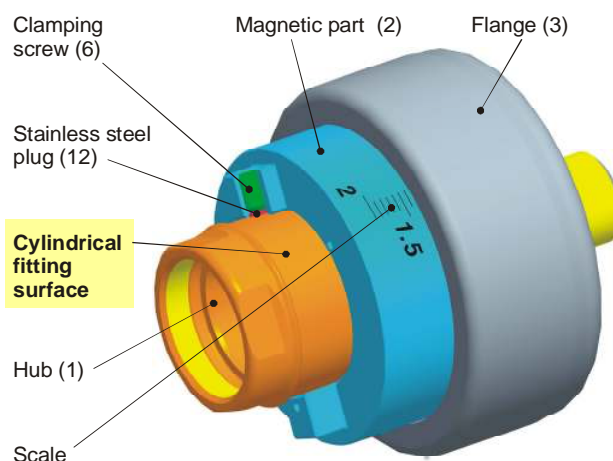

Fig. 3
The torque set on the ROBA®-contitorque can be read using the graduation scale located on the magnetic part (2) (see Fig. 3).
Damage to or dirt on the cylindrical fitting surface (Fig. 3) will lead to reductions in running smoothness or torque adjustment failure.
Procedure for Torque Adjustment (see Figs. 3 and 4):
The ROBA[®]-contitorque cylindrical fitting surface on the hub (Item 1 / Fig 3) must not be damaged or made dirty.